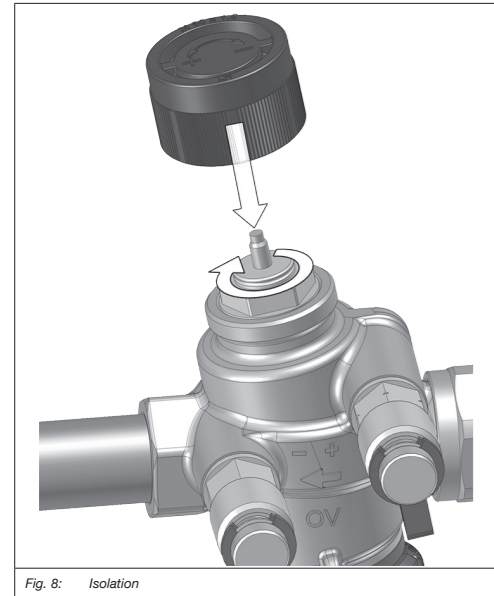

Fig. 8: Isolation
1. Close the valve, for instance with the help of the protection cap (see Fig. 8).
Screw the included protection cap onto the connection thread M 30 x 1.5 of the valve (see Fig. 8).